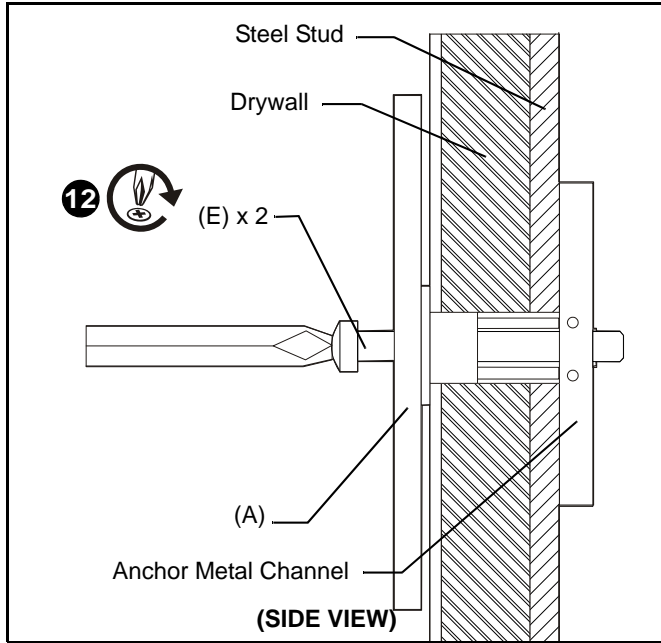

Figure 6
11. Place CPU mounting plate (A) over anchors and align mounting holes in display mount with holes in anchors. (See Figure 6)
12. Insert 1/4-20 x 1-1/2" Phillips flat machine screw (E) into mounting hole on CPU mounting plate (A) and into anchor (D) and tighten until flush against mounting plate. DO NOT overtighten! (See Figure 6)